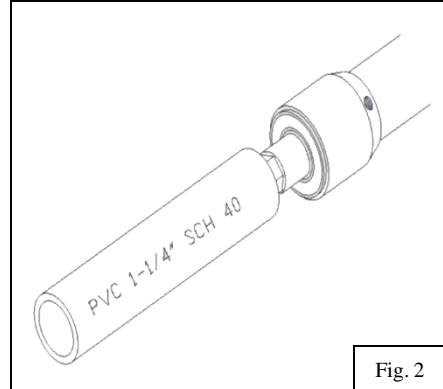

Fig. 2
2. Place clean rags or paper towels between the belt and transmission to catch any oil you may spill. **(Fig. 2)**
1. Remove the top, back covers, wiring harness cover and brake plate assembly. You can remove the side covers and brake plate in one piece. **(Fig.1)** Hang the brake plate assembly from the lift eye on the frame. **(Fig. 2 and 2a)**
2. Slide on the clutch field assembly first, then the rotor assembly. **(Fig.2)**
5. Pack the first seal with grease and insert it into the housing with the spring-side facing the engine and screw the seal on over the threads on the shaft. **(Fig. 1)** These seals can be pushed in with a 1-1/4" schedule 40 PVC pipe cut 6-1/2" long. This procedure may shave a small amount of material off of the outside diameter of the seal. **(Fig. 2)** Insert the next seal with the spring facing the prop. Pack the area between the two seals with a small amount of grease and use the same PVC pipe to push the seal in completely.